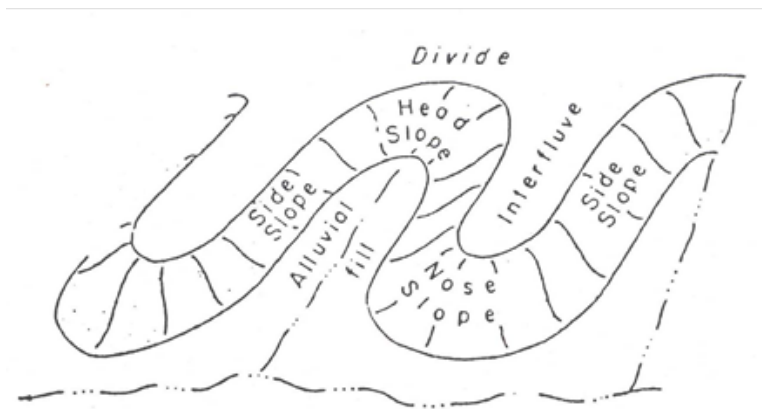

Figure 1. Erosional landforms.
- (2) **Erosional landforms**, carved by running water, occur in the region. Contestants should be able to recognize the erosional landforms, which are shown schematically in Figure 1. This is a large-scale consideration. Observe how this concept is used on the practice sites. If the soil